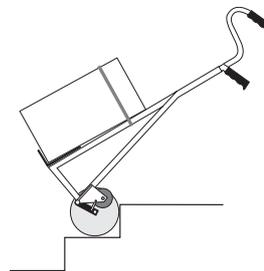
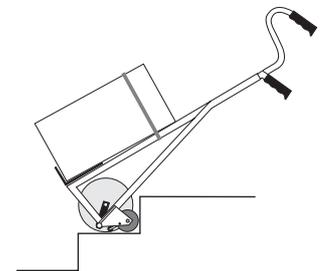

FIGURE 38
FIGURE 39
4. After the big wheels touched down on the next step, the frame lowers itself (see Figure 38) until the small supporting wheels touch down next to the big wheels (see Figure 39)